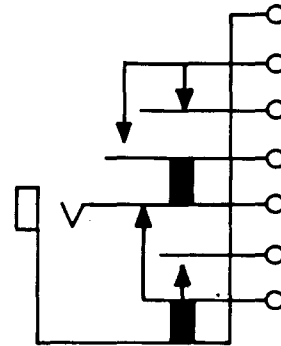

Fig. 6—438C Jack
2.05 438C: This single mounted jack (Fig. 6) is heavily insulated and is arranged to be used with the 153, 209, 241A, 241B, 241C, and 347-type plugs. This jack replaces the 281A jack.